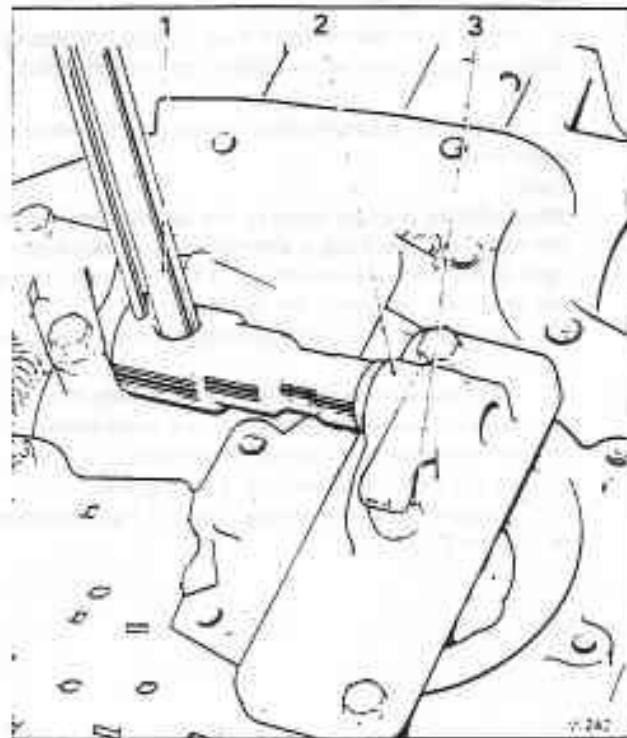

Fig. T13-6 Selecting the band apply pin
1. Fit the band apply pin selector gauge (J-21370-6) onto the bottom face of the transmission casing. The gauge must fit over the rear servo bore with the hexagonal nut on the side of the gauge facing the parking linkage. The smaller diameter end of the gauge pin (J-21370-5) should be positioned in the servo pin bore (see fig. T13-6).
6. To determine the correct size pin to use, apply 34 Nm, 3.5 kgf m (25 lbf ft) to the hexagonal nut on the side of the gauge (see fig. T13-6). This will cause the lever on top of the gauge to depress the stepped gauge pin into the servo pin bore, simulating the actual operation of the servo.